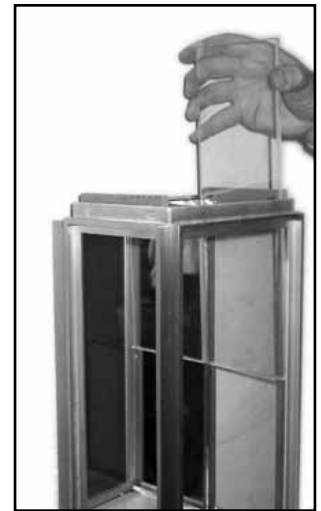

Figure 9
Step 11 Locate the remaining glass panels and carefully lower into position. Please note that the panels will have a tendency to fall inward. We recommend the use of a small piece of tape to temporarily prevent the panel from falling. (Fig 9)